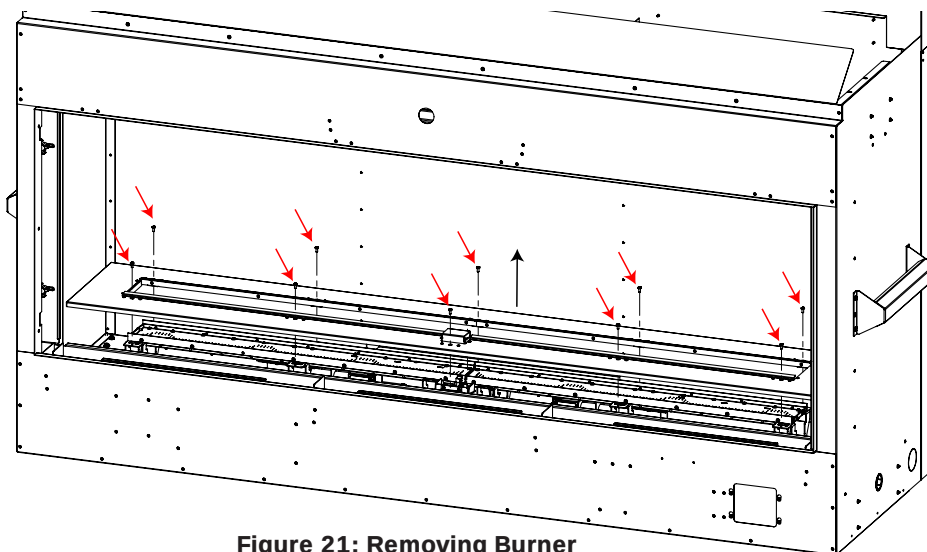

Figure 21: Removing Burner
5. Remove ten T-20 screws securing the media tray, see Figure 21, then lift the media tray straight up and pull it out of the fire box.